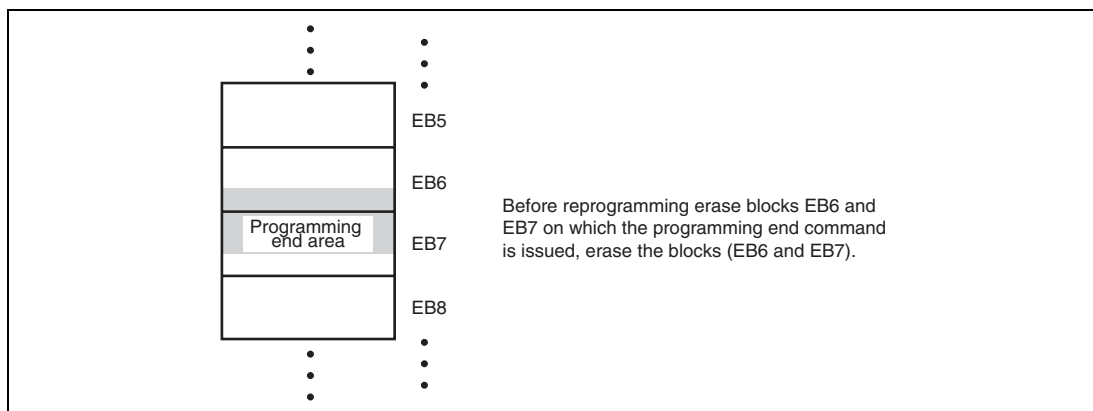

**Figure 22.9 Example of Erase Block Including Programmed Area**
4. When the program preparation notice is received, the state of waiting for program data is entered. The start address of the programming destination and program data must be transmitted after the programming command is transmitted. When programming is finished, the start address of the programming destination must be set to H'FFFFFFF and transmitted. Then the state of waiting for program data is returned to the state of waiting for programming/erasing command. When reprogramming an erase block including an area on which the programming end command is issued, erase the erase block. An example of the erase block is shown in figure 22.9. When the erasure preparation notice is received, the state of waiting for erase block data is entered. The erase block number must be transmitted after the erasing command is transmitted. When the erasure is finished, the erase block number must be set to H'FF and transmitted. Then the state of waiting for erase block data is returned to the state of waiting for programming/erasing command. Erasure must be executed when the specified block is programmed without a reset start after programming is executed in boot mode. When programming can be executed by only one operation, all blocks are erased before entering the state of waiting for programming/erasing command or another command. Thus, in this case, the erasing operation is not required. The commands other than the programming/erasing command perform sum check, blank check (erasure check), and memory read of the user MAT and user boot MAT, and acquisition of current status information.